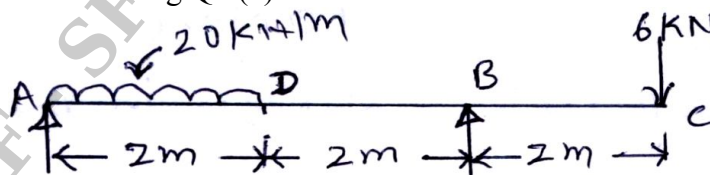

Fig.Q.6(b)
- b. Draw the shear force and bending moment diagram indicating principal values for an overhanging beam shown in Fig.Q.6(b). **(14 Marks)**